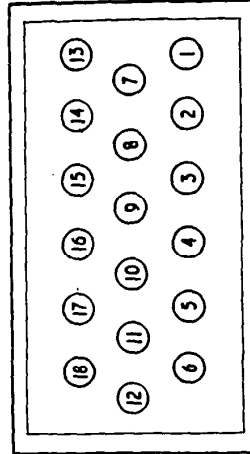

FIG.26 OUTPUT SOCKET (SK608)
- (1) The Engineering Channel Amplifier is housed in the same case as the SUR No. 23, and can be removed by undoing four screws in the corners of its chassis. Connections are made through SK608 which is shown in Fig. 26. The values in the following tables are with the Engineering Channel Amplifier disconnected from the SUR 23.
- (2) Table 16 provides cathode bias voltages which will normally be obtained at the test points.
- (3) Tables 14 and 15 though both applicable to the same socket are separated to differentiate between voltage and ohmic values.